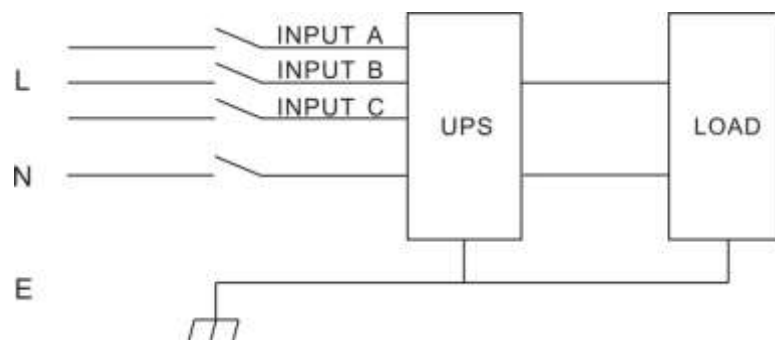

Fig. 5-1 Correct power configuration
- For the safety sake of user and equipments, please be take correct power configuration (Fig. 5-1).